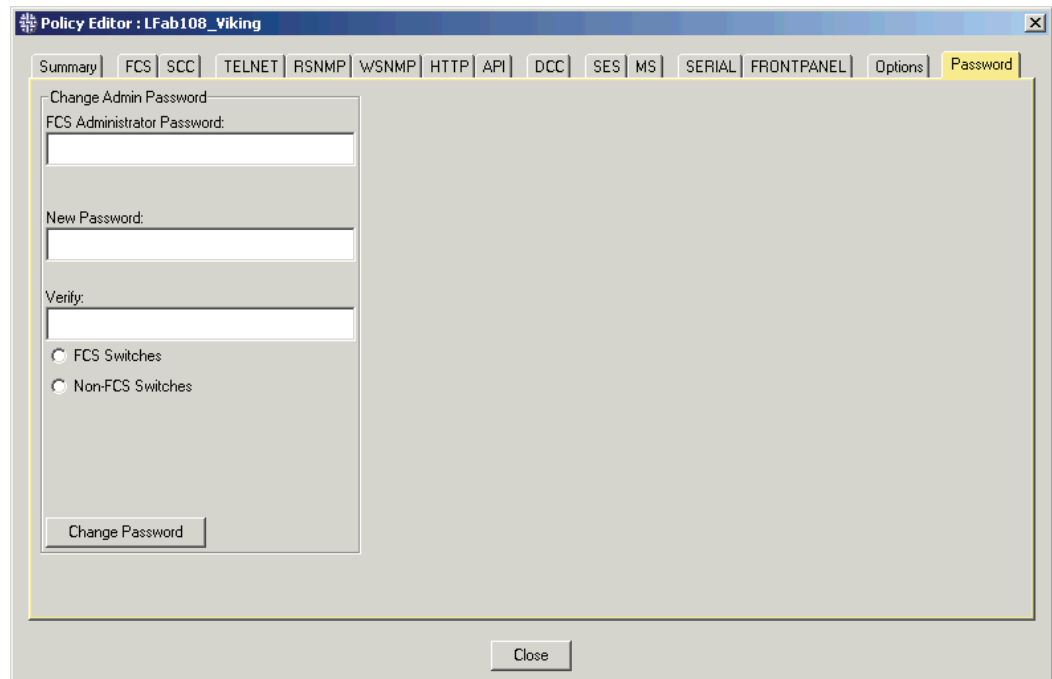

Figure 17-10 Configuring the FCS or Non-FCS Admin Security Password
2. Click the **Password** tab (see Figure 17-10 on page 17-16).